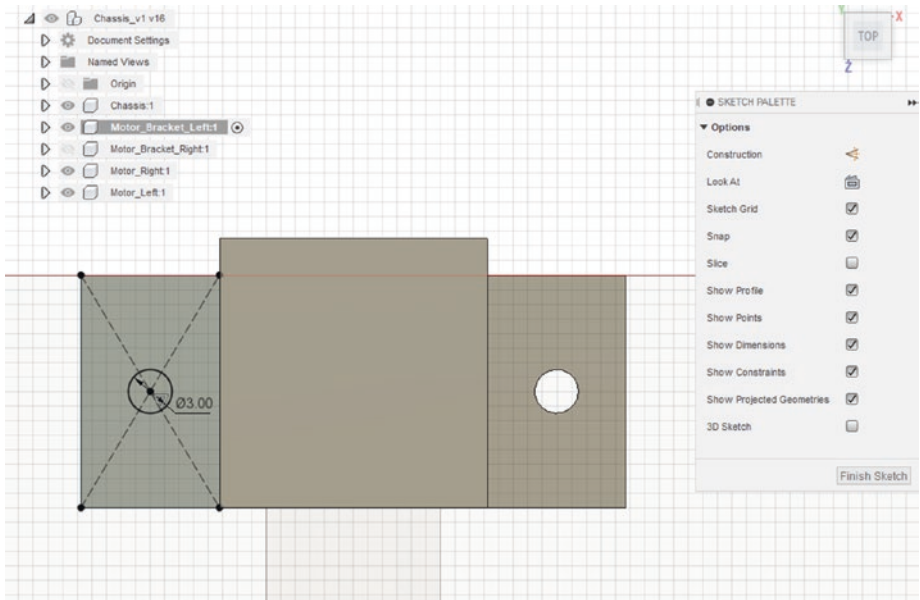

Figure 6-66. Create the holes for the motor bracket
- 34. Make two 3mm holes in the center of each of the wings of the bracket. See Figure 6-66.